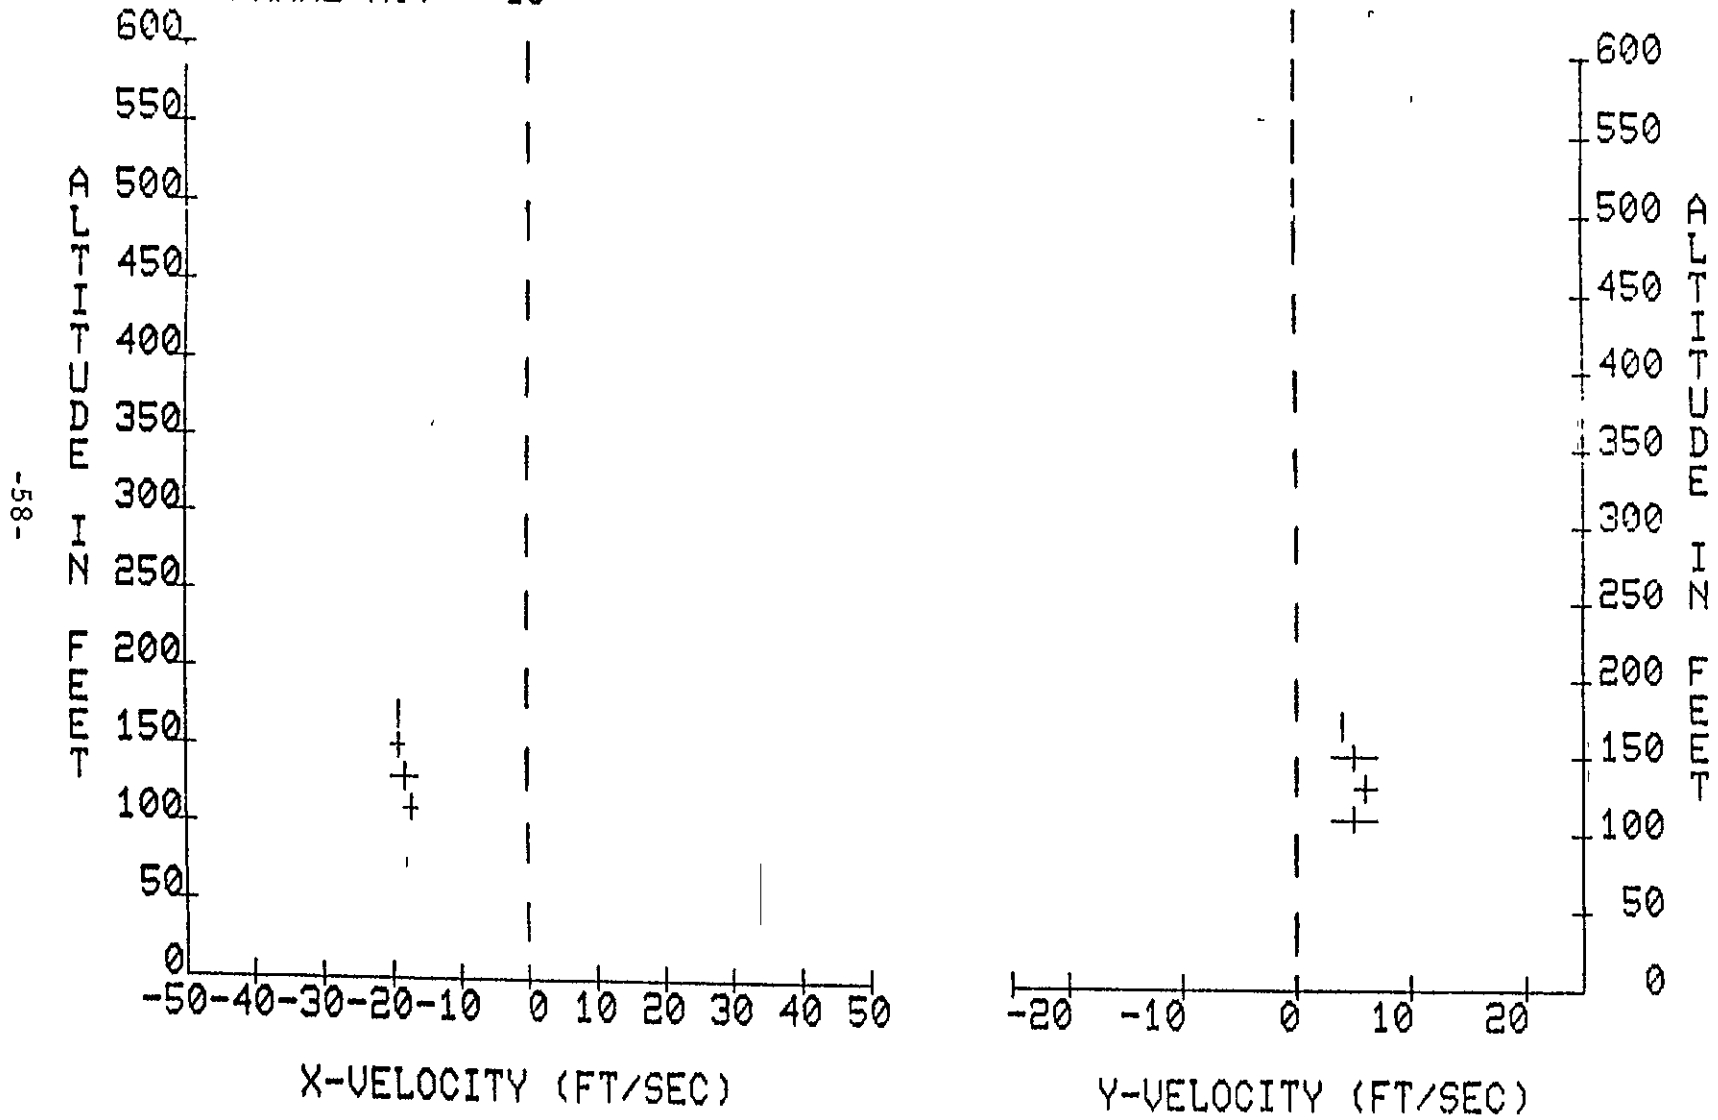

Figure 8-7
- o Wind Profile (Display 35) (Figure 8-7):